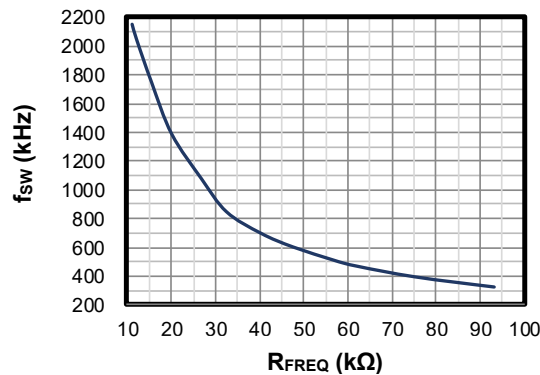

Figure 1:  $f_{SW}$  vs.  $R_{FREQ}$
7. The MPQ4313's switching frequency ( $f_{SW}$ ) can be configured by R3, the FREQ pin's resistor ( $R_{FREQ}$ ). R3 can be estimated based on the relationship between  $f_{SW}$  and  $R_{FREQ}$  (see Figure 1).